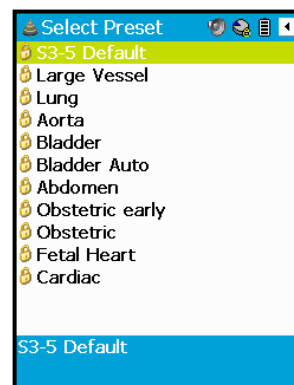

Fig 6.7 Select Preset
- Navigate **Main Menu>Scan Presets>Select Preset** (Fig 6.7). Highlight the name of the desired preset.